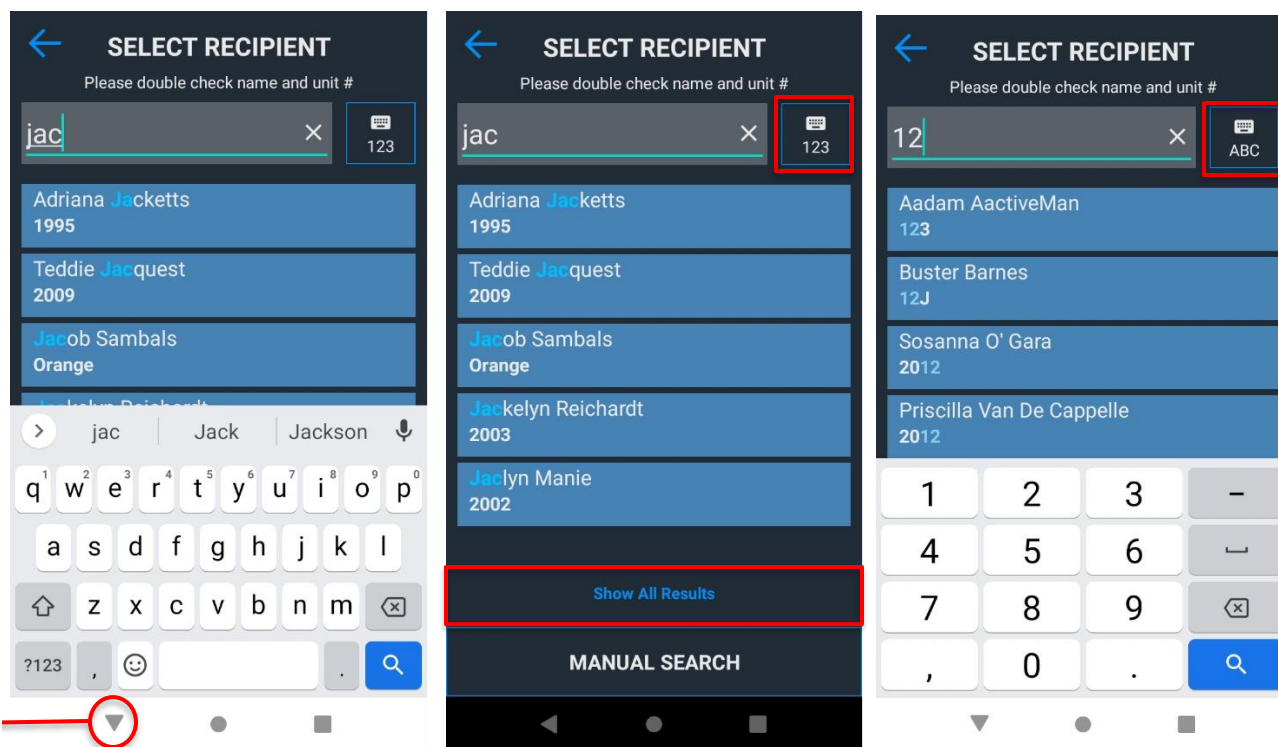

Figure 14: Search bar, Hide Keyboard, Show All Results, Numeric Keyboard
4. If presented with a list of names, **tap the recipient**. See Figure 14.
If the system cannot auto-assign (locate) the recipient, use the Search bar to find them manually, see Figure 14. You can tap the Search bar or the **Manual Search** button, then type the recipient's information. For more information, see Searching for a Recipient's Name on page 23.
To see the entire list of names, tap the **Down Arrow** button to hide the keyboard. Tap **Show All Results**, then scroll and tap the name. See Figure 14.
You can also use the **Numeric Keyboard** toggle button to switch between numeric and text keyboards. Allows you to easily search for a unit number. See Figure 14.